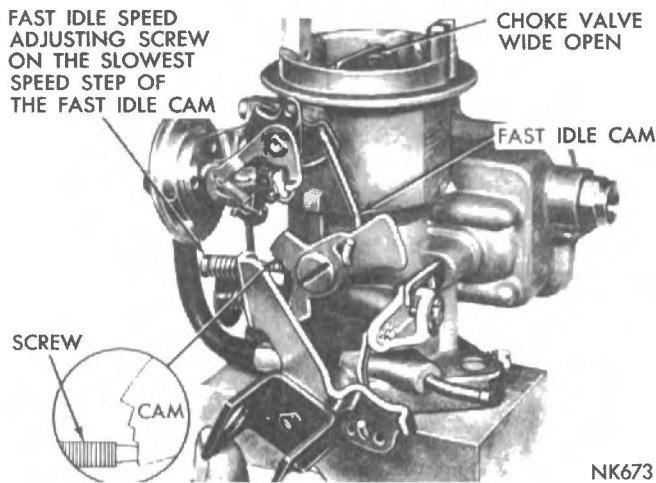

Fig. 30 - Fast Idle Speed Adjustment.
(1) With the engine running and the transmission in neutral, open the throttle slightly.
(2) Close the choke valve approximately 20 degrees then allow the throttle to close. Return the choke valve to the open position.
(3) The fast idle speed adjusting screw should contact the lowest step on the fast idle cam, as shown in Fig. 30.
(4) With the engine warmed up to the normal operating temperature, turn the fast idle speed adjusting screw IN or OUT to obtain the fast idle speed shown in the specifications. Reposition the cam and throttle after every screw adjustment.